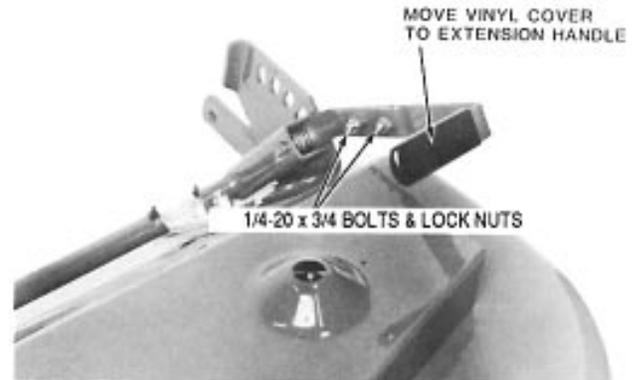

Figure 5
2. Using the extension handle as a template, drill a 1/4" hole in the height control handle so that the extension handle can be bolted to it (Fig. 5).
3. Secure the extension handle to the height control handle with (2) 1/4"-20 x 3/4" bolts and (2) 3/4"-20 locknuts (Fig. 5).
4. Slide the vinyl cover over the end of the extension handle (Fig. 5).